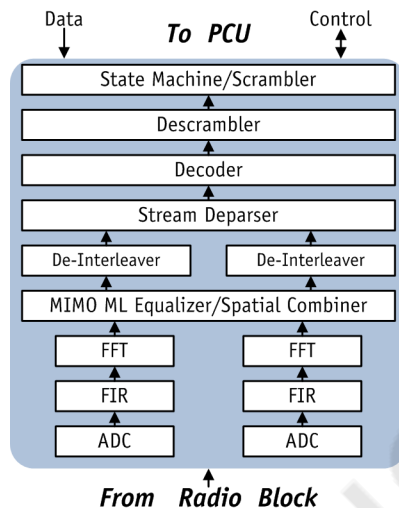

Figure 6-2 Digital PHY 802.11n Rx
Figure 6-2 shows the Rx path digital PHY 802.11n (MIMO mode) block diagram.
The receiver inverts the transmitter's steps, performing a fast Fourier transform (FFT), extracting bits from received constellations, de-interleaving, accounting for puncturing, decoding, and descrambling. The Rx block shows 2x2 MIMO configuration. Figure 6-2 shows a frequency-domain Maximum Likelihood (ML) equalizer handling degradation due to multi-path.